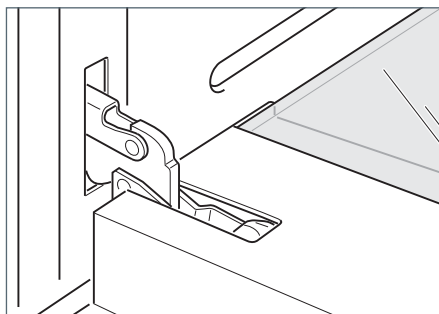

Fig. 63a
- 1 Open the door to its full extent (Fig. 63a).